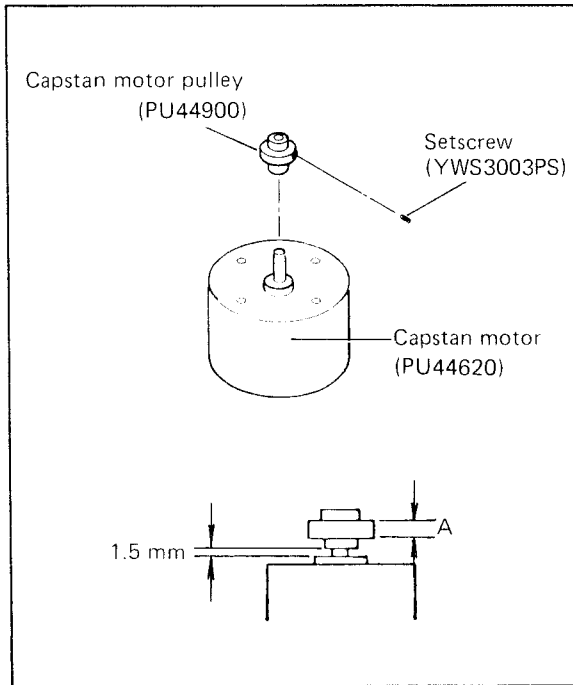

Fig. 5-16
3. When mounting a motor pulley to a DC motor, be careful to install on a motor shaft exactly as shown in Fig. 5-16. Set 1.5 mm thickness gauge between motor and motor pulley, then fasten the setscrew.